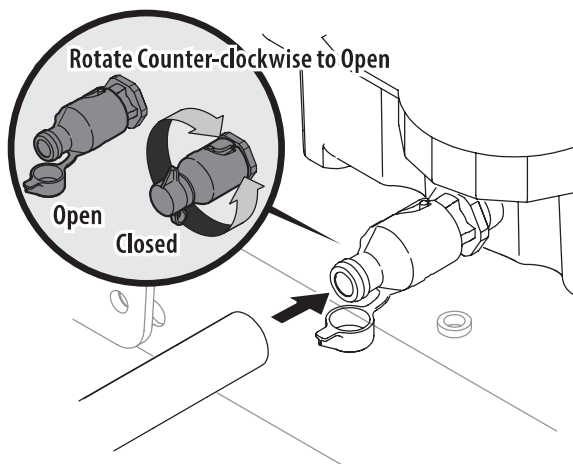

Figure 21
4. Open the protective cap on the end of the oil drain valve to expose the drain port (Figure 21).